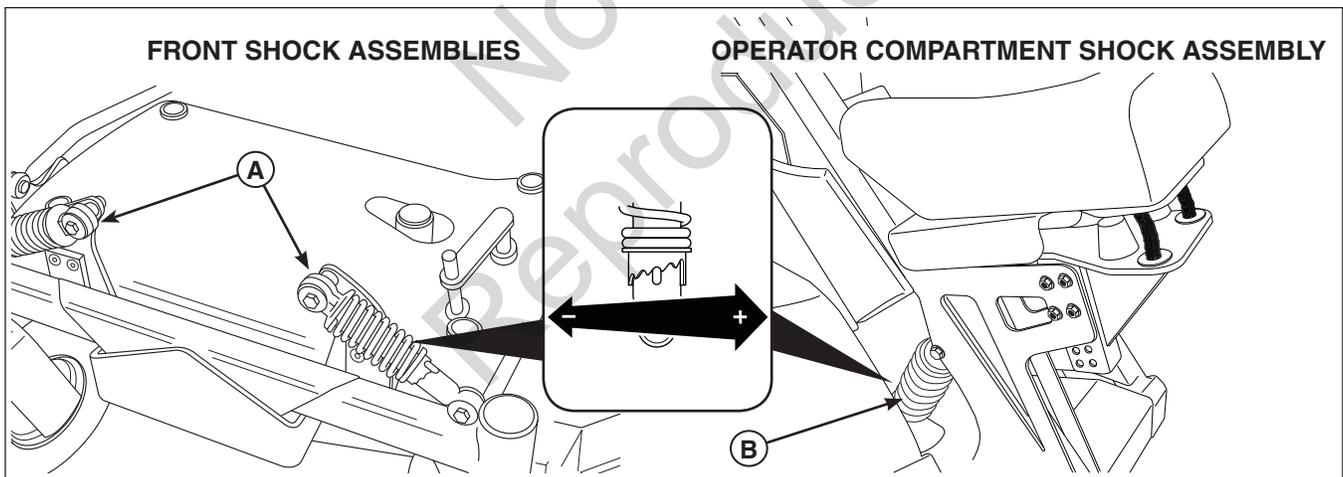

Figure 35. Suspension Adjustment
The front shock assemblies (**A**, **Figure 35**) and the operator compartment shock assembly (**B**) can be adjusted to vary the amount of pre-load applied to the springs. This allows the operator to maintain the ride height.
2. See Figure 35. Using the supplied spanner wrench (P/N 5022853), insert the tip of the wrench into the notch in the pre-load adjuster. While holding the wrench with both hands, turn **CLOCKWISE** to decrease the pre-load, turn **COUNTER-CLOCKWISE** to increase the pre-load.